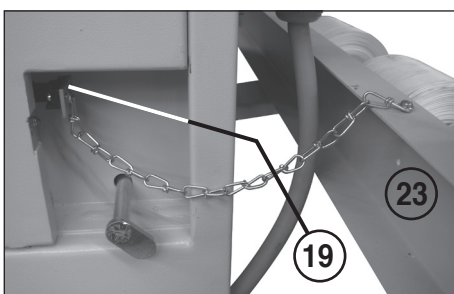

fig. 3
2. Secure the end of the chain of the baler safety switch activator (19) to the cross beam (23) of the shredder base, using the appropriate bores (fig. 3).
3. Insert the actuator (special key) of the safety switch activator (19) in the limit switch at the baler (fig. 3).
- 19 = safety switch activator (fig. 3)
- a) The emergency stop bar (14) is released (pull red bar at table forward)
- b) The key switch (2) has been unlocked (turn key clockwise)
- c) The mains switch (1) has been switched on (switch position "1")
- e) The safety switch activator (19) (fig. 3) has been inserted into the safety switch at the baler
- f) The inlet flap (30), the discharge flap (31) and the cover flap (27) are closed.